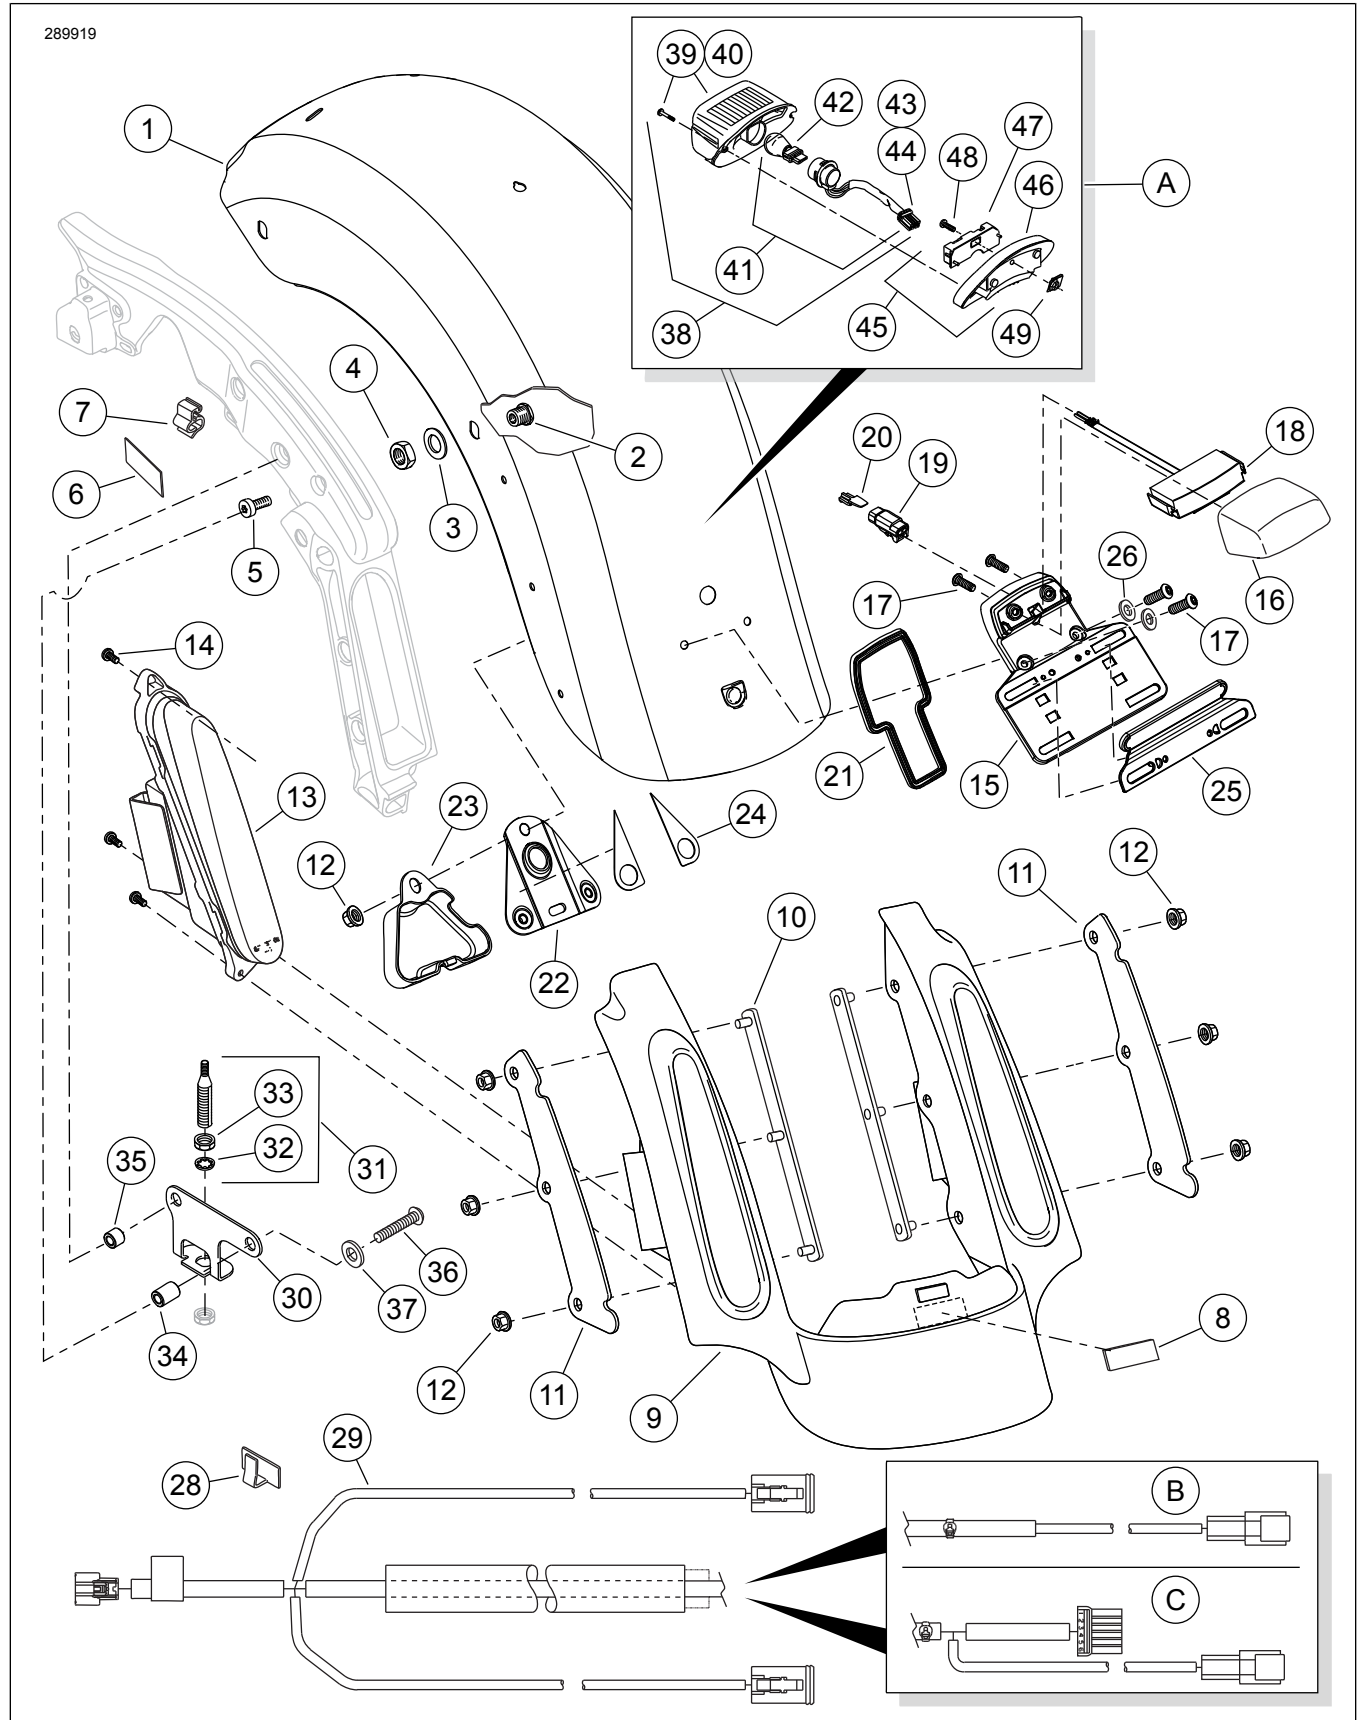

Figure 5. Service Parts, FL Touring CVO-Style Rear Fender Kits
1. See Figure 5. Disconnect antenna cable from antenna base assembly.
7. See Figure 5. Position **new** antenna bracket (30) near fender supports and fasten bracket to fender supports:
- a. Assemble thin washer (37) to screw threads.
- b. Install screws (36) and washers (37) through antenna bracket from rear.
- c. See Figure 5. Slide spacers (34 and 35) onto threads that are extending through bracket. Note spacer lengths.
2. See Figure 5. Get four 5/16-18 x 25.4 mm (1 in) long fender mounting screws (5) from kit.
17. See Figure 5. Use a clip (7) from kit to fasten a harness leg to clip slot on underside of each saddlebag support.